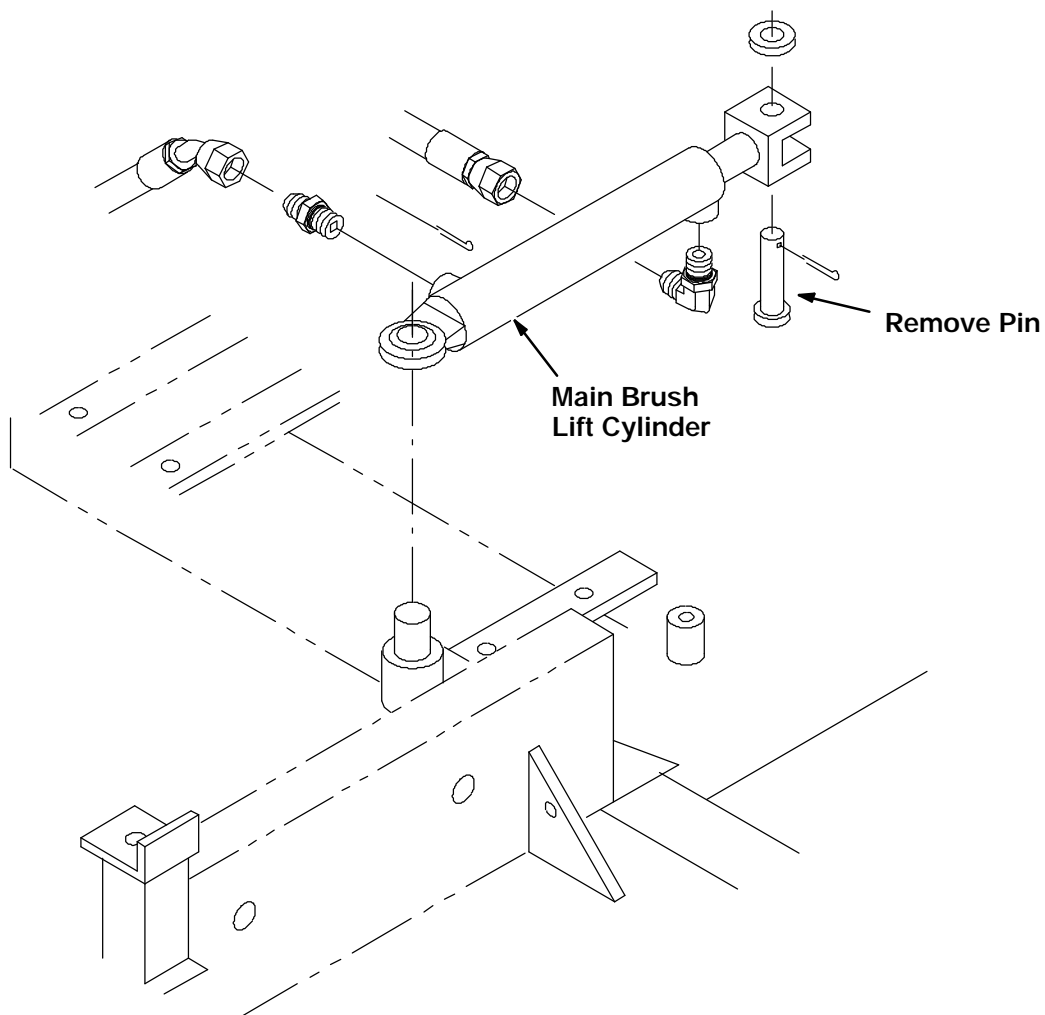

FIG. 2 - Remove Main Brush Lift Cylinder
(Refer to FIG. 2 and 3)
1. Remove the main brush lift cylinder for access to the bearing blocks on the hopper lift cylinders. (Refer to Fig. 2)
7. Replace the main brush lift cylinder. (Refer to Fig. 2)